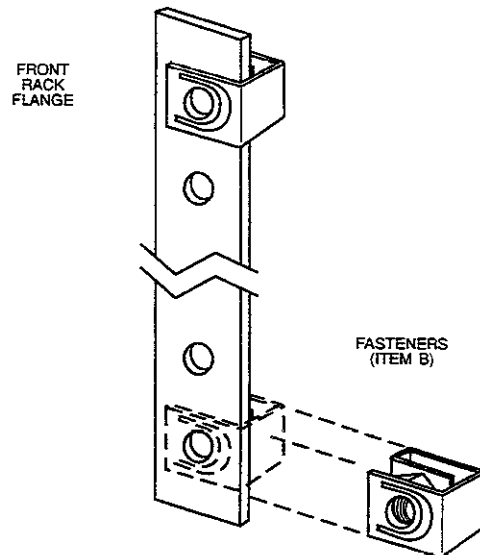

Figure 2.
2. Using Figure 2 as a guide, install the four fasteners (Item B) onto the front rack flanges.